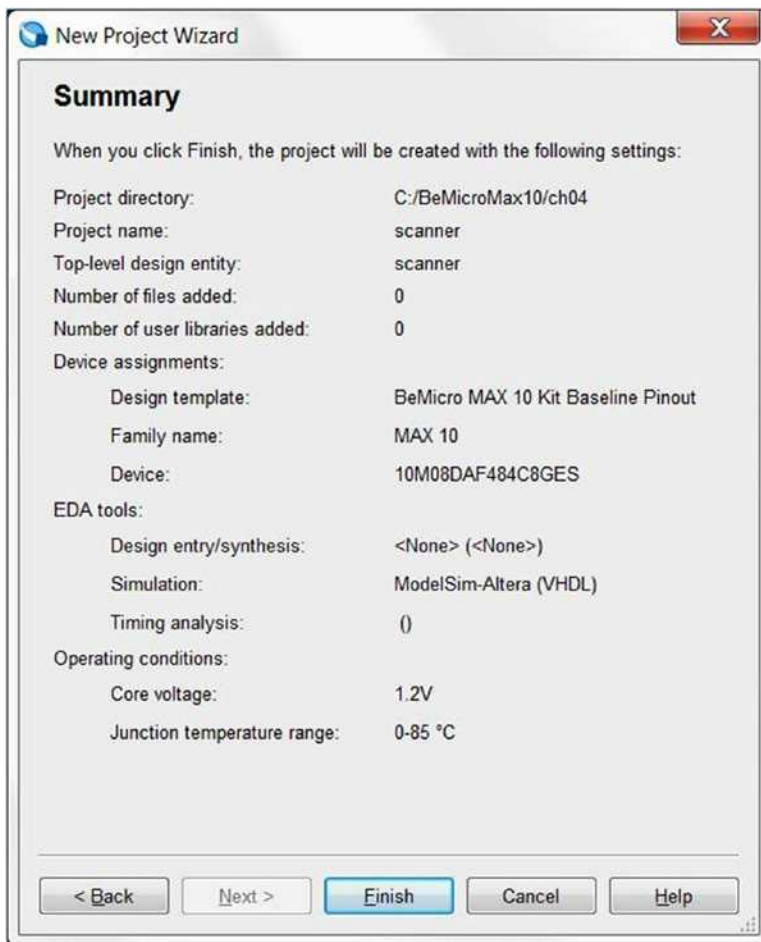

Figure 4-13. *New Project Wizard—Summary*
14. This is the last step to set up the BeMicro MAX 10 project. Figure 4-13 shows a summary of the project. Make sure your summary is the same as this one and then click **Finish**.